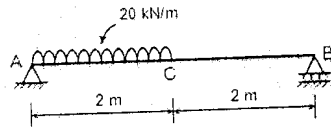

Figure.3
- b) A simply supported beam AB of span 4 m carries an uniformly distributed load as shown in fig. 3. Draw S.F. and B.M. diagrams for the beam. Find magnitude of maximum B.M. **6 Marks**